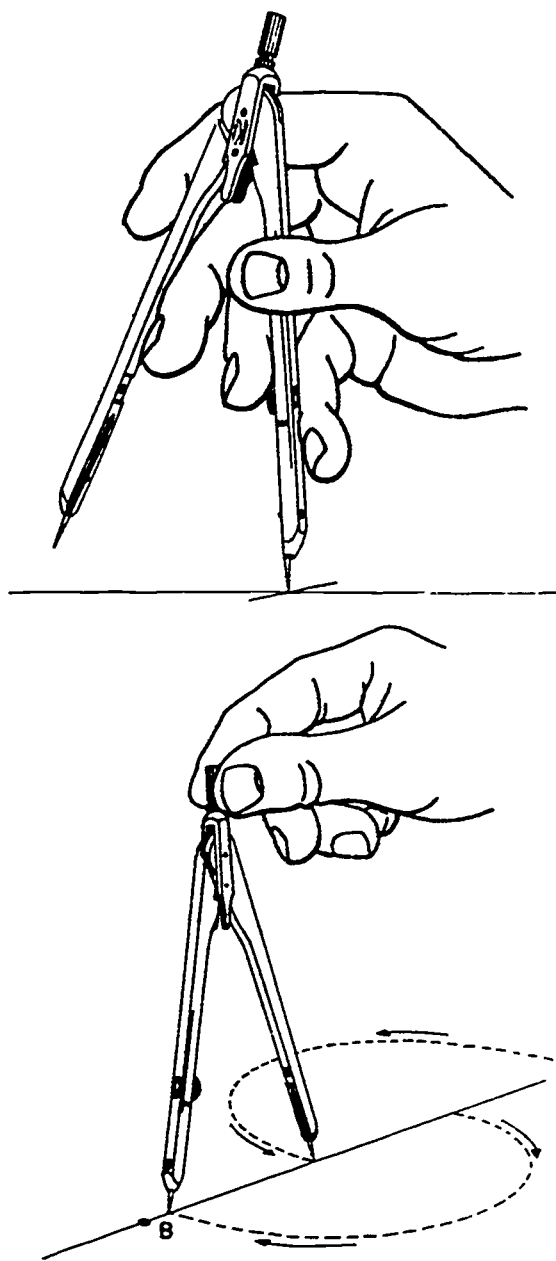
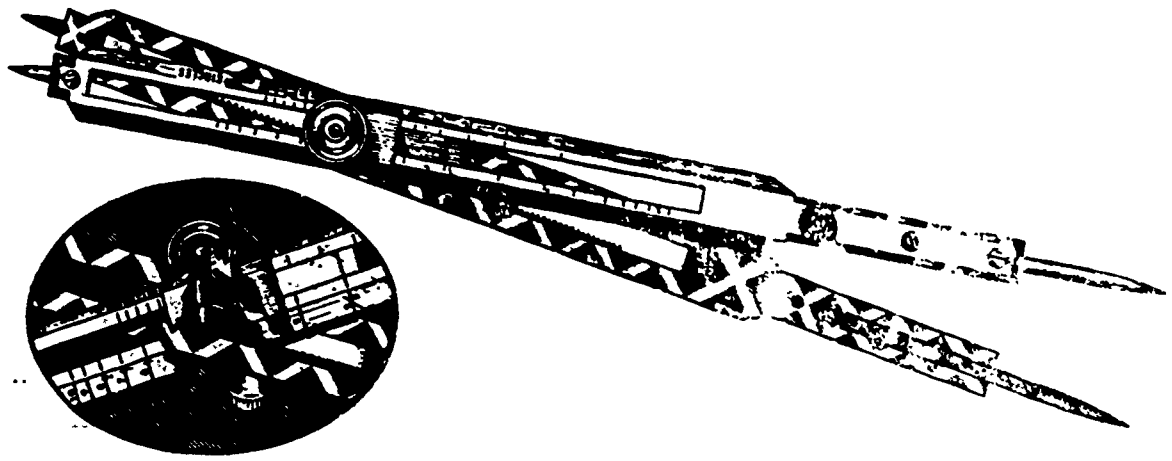

Figure 2-29. Adjusting and using the divider.
Figure 2-30. Proportional divider.
**Dividers.** Dividers are used chiefly for transferring distances and occasionally for dividing spaces into equal parts. They are similar to compasses except that both legs have needle points (fig. 2-29).
To transfer a measurement from one drawing to another or from an object to a drawing, set the divider to the correct measurement and transfer the measurement to the drawing by pricking the drawing surface very slightly with the points of the divider. To step off a series of equal measurements, set the divider first clockwise and then counterclockwise, as shown in the lower illustration of figure 2-29. Alternately reversing the swing permits you to maintain your grip on the divider.
You can use dividers to divide a measurement into a number of equal parts by the trial and error method. The principle of this method is shown in the bottom portion of figure 2-29. If you want to divide the distance between points A and B into three equal parts, start by estimating one-third of the distance. Then set the divider for this distance; place one point of the divider on point A and step off three spaces along the line between points A and B. Be careful to prick the paper as lightly as possible. If the point of the divider coincides with point B, you have accomplished your objective. The two prick holes mark the division points of the line A-B. You may want to go back and make these holes slightly larger or mark them with a pencil to complete the operation.
If the point of the divider falls short of point B, as shown in figure 2-29, or overshoots it, you can use the distance of the undershoot or overshoot to determine approximately how much to change the setting of the divider for the next trial operation. In the above example, since you are dividing the distance between points A and B into three equal spaces, and the first trial setting was too small, increase the span of the divider by one-third the distance between the final position of the divider and point B. By repeating this trial operation, you will find the right setting.
An easier method of dividing the line shown in figure 2-29 includes the use of a *proportional divider* (fig. 2-30). This type of divider consists of two legs that are held together by a movable pivot section and which have a needle point on each end. The movable pivot section allows you to adjust the divider so that the span of the short needle points has a desired ratio to the span of the long needle points. The enlarged detail of this section shows how this is done. Notice that the knob on the underside of the bottom leg is geared to a rack on the inside of this leg. As you turn the knob, the pivot section slides along the inside of both legs. You can set the divider for a desired ratio by aligning the index mark on the movable slide with the graduation marks on the top leg. The divider illustrated in the enlarged detail of figure 2-30 is set with the index mark aligned with the  $\frac{2}{5}$  graduation mark. Therefore, the span of short needles will be two units when the span of the long needles is five units. After setting the divider for a certain ratio, lock the pivot point by tightening the locking nut on the face of the upper leg. This setting-and-locking operation is done with the legs of the divider closed. After locking the pivot point, you are ready to use the divider.
Now let us see how you would use the proportional divider to divide the distance between points A and B of figure 2-29. Since you want to divide the distance into three equal parts, you must first set the divider for a ratio of 3 to 1. You do this by setting the index mark opposite the indicating mark 3 and tightening the locking nut. Next, you
Notice that the proportional dividers shown in figure 2-30 are graduated for dividing circles as well as lines. To use them for this purpose, you set the right end of the index mark to the graduation line corresponding to the number of divisions desired. Then set the span of the long needles equal to the radius of the circle to be divided. Now you can use the short needle end of the divider to step off the divisions along the circumference of the circle.